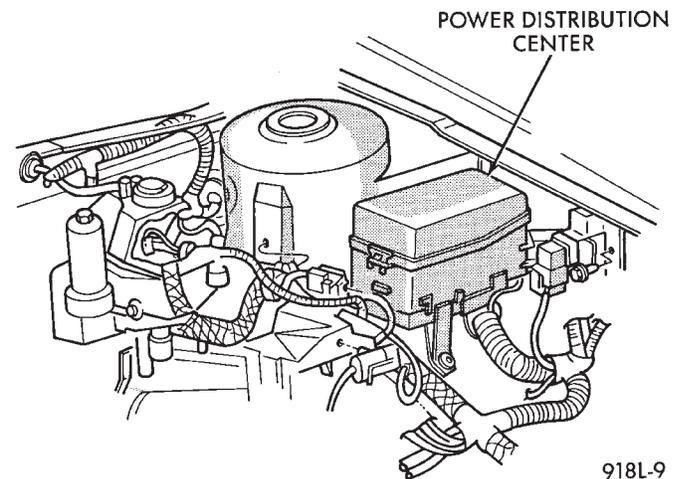

Fig. 1 Power Distribution Center
- (1) Turn the headlight switch ON.
- (2) Open the hood and locate the Power Distribution Center forward of the left front suspension tower (Fig. 1). Remove the cover.